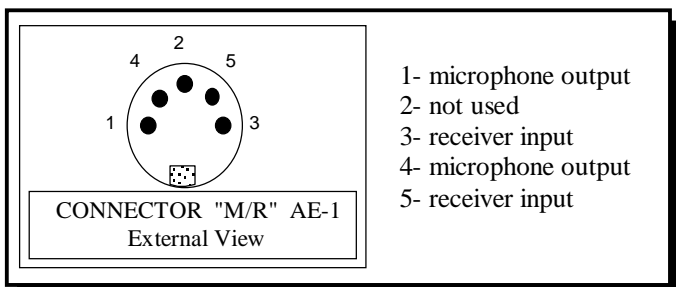

fig.4
- Connect to M/R of **AE-1** the telephone circuit as specified in fig.4. For that where the microphone capsule is normally